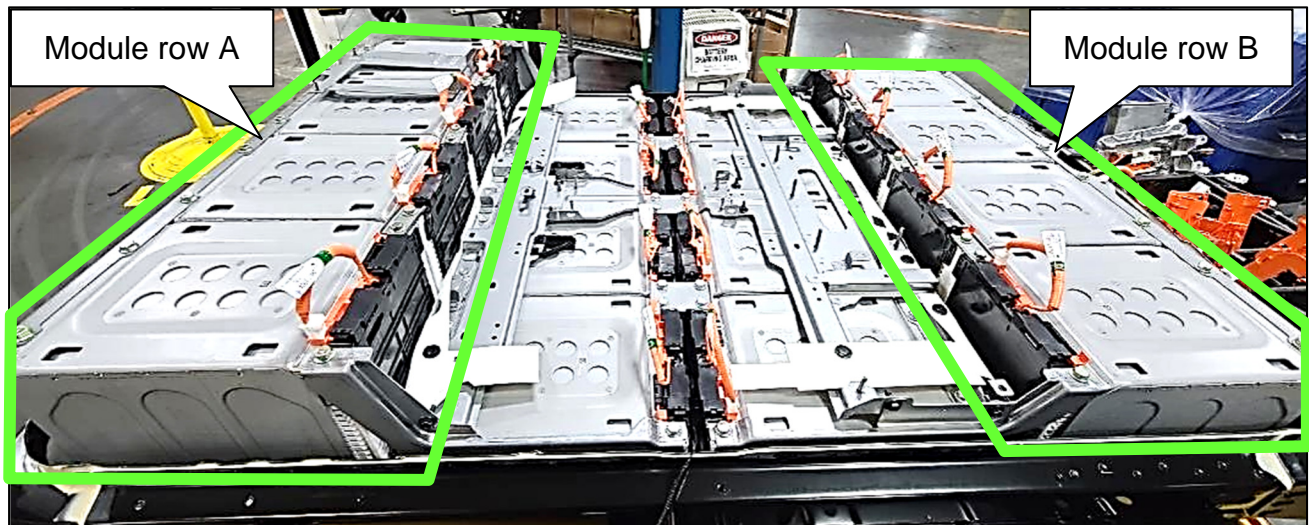

Figure 1
- The affected module will only be in module row A or B (Figure 1).